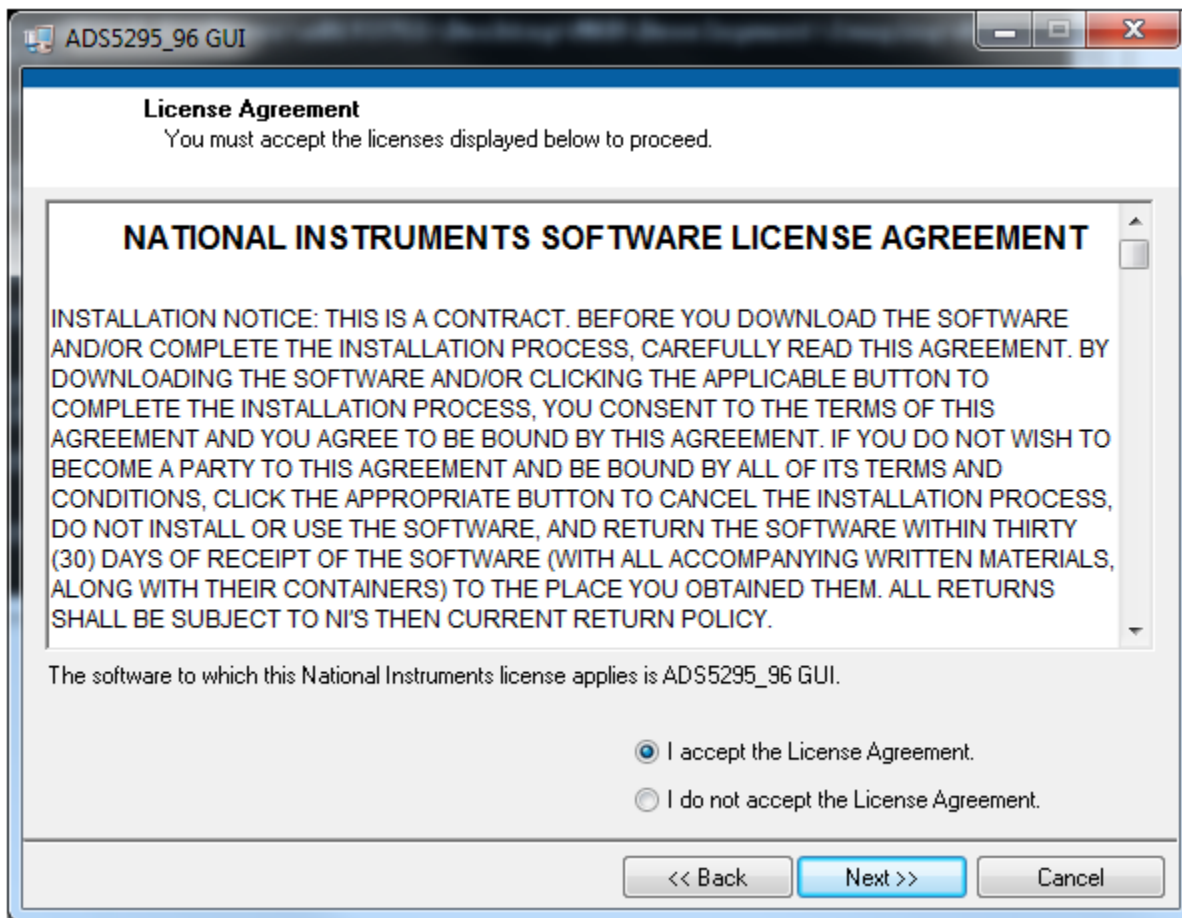

Figure 5. HSDCpro Install (d)
- Read the License Agreement from National Instruments and select *I accept the License Agreement* and press the *Next* button as in Figure 5.